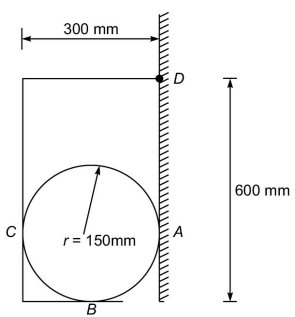

Fig. Q. 137
- 137. A 600 N cylinder is supported by the Frame $ABCD$ as shown in Fig. Q. 137. The frame is hinged at D . The direction of reaction at D makes angle 71.56° to horizontal.